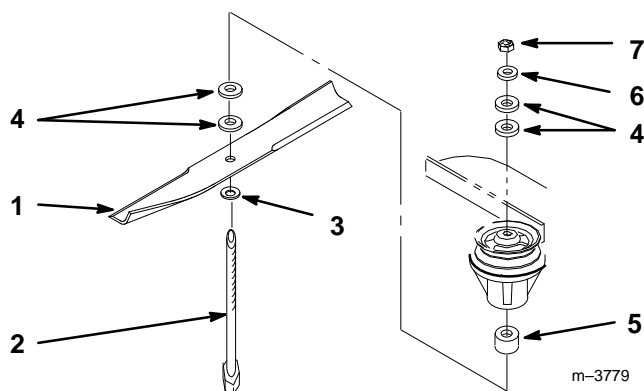

Figure 17
2. Hold blade bolt and remove nut. Slide bolt down, through spindle, and change spacers as required (Fig. 17).
3. Insert bolt, add extra spacer(s), and secure with thin washer and nut (Fig. 17).